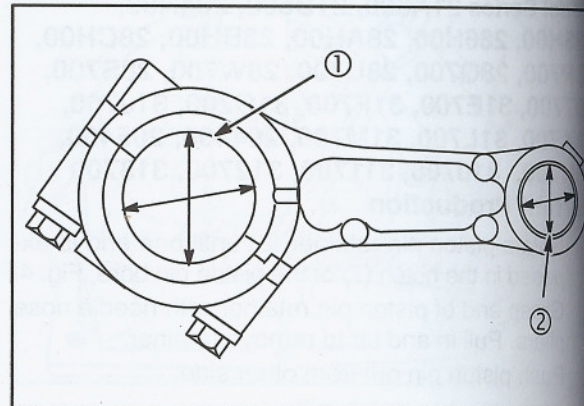

Fig. 8
Reject sizes of crankpin bearing hole (1) and piston pin bearing hole (2), Fig. 8, are shown in Table No. 3, page 9.